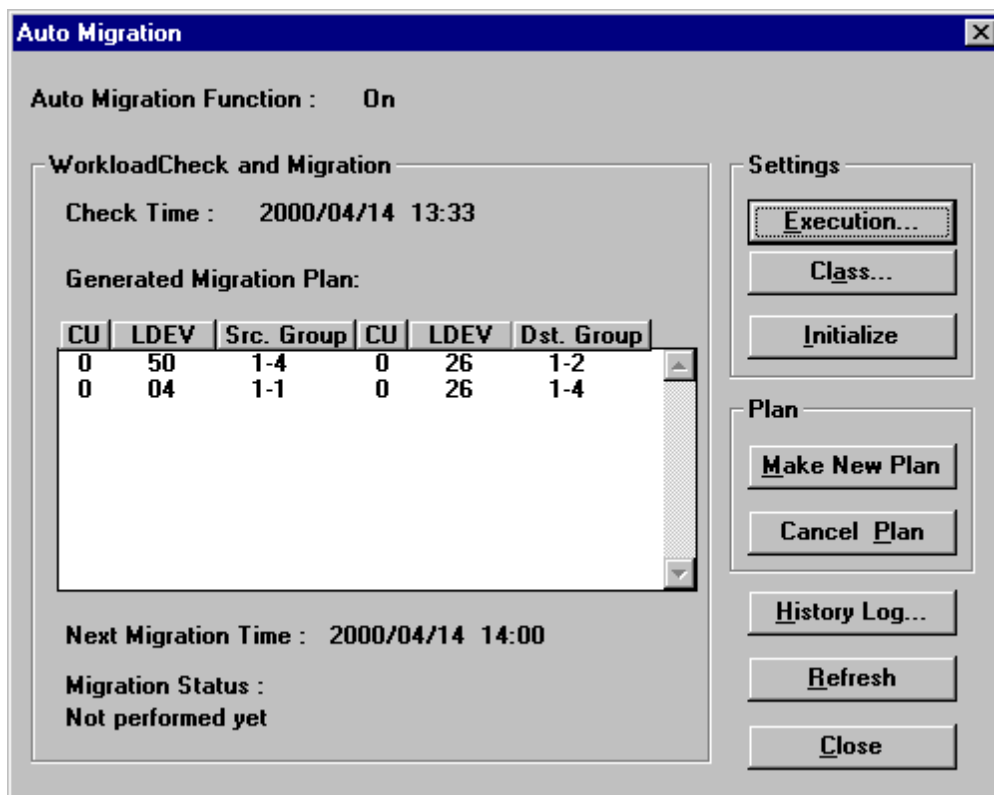

Figure 4.12 Auto Migration Panel
The Auto Migration panel (see Figure 4.12) displays the auto migration plan information and provides access to all auto migration functions. To open the Auto Migration panel, select the **Auto...** button on the HIHSM Main panel.
1. On the HIHSM Main panel, select the **Auto...** button to open the Auto Migration panel (refer to Figure 4.12).